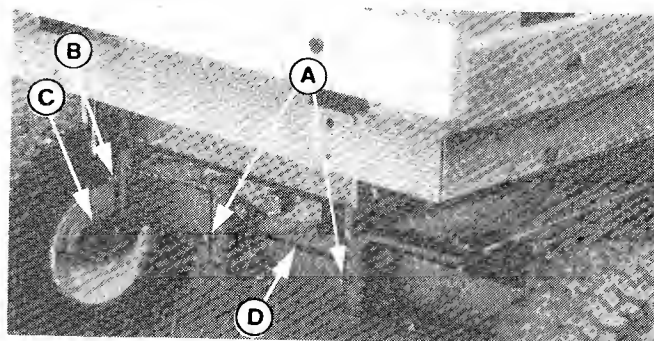

Figure 7. Grease Fittings
2. With a grease gun, apply one or two shots of lithium based automotive grease to the grease fittings. See figures 7 and 8.